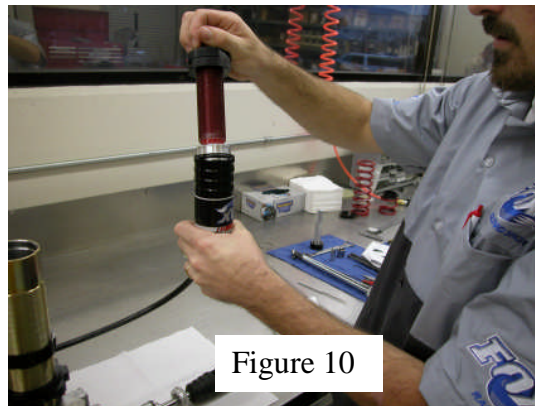

Figure 10
15. Gently pull the IFP out of the reservoir tube using the IFP Depth Setting Tool (**Figure 10**), and place it on a clean, lint free towel. Remove the shock from the vice and pour shock oil from body and reservoir tubes into a proper disposal container. **DO NOT RE-USE OLD SHOCK OIL.** Take several sheets of clean, lint free paper towels and stuff them into the body and reservoir tubes. (This is done to prevent residual oil from dripping out of body and reservoir tubes.)